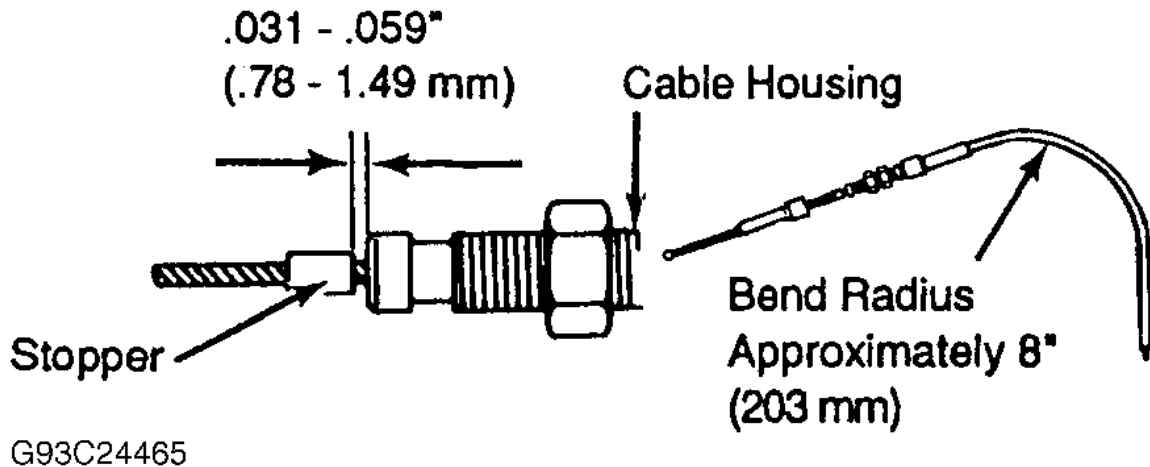

Fig. 1: Locating Throttle Cable Stopper
2. Pull inner cable lightly, until a slight resistance is felt, and hold in place. Stake stopper on inner cable, leaving a .031-.059" (.78-1.49 mm) gap between cable housing and stopper. See Fig. 1.